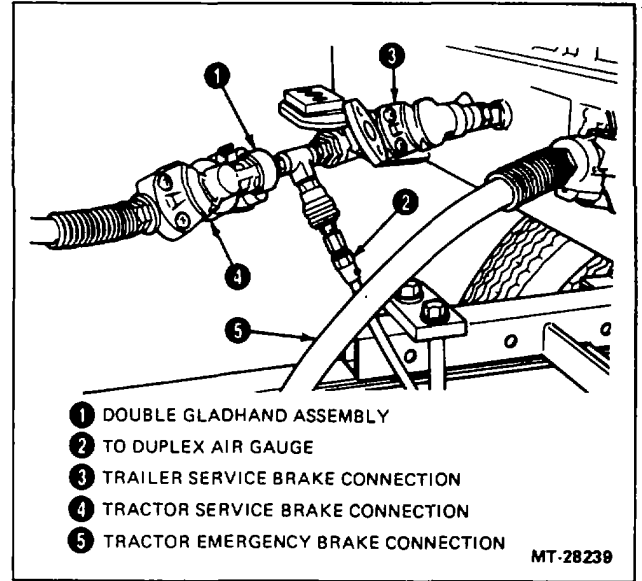

Figure 32—Double Gladhand Assembly Installation
- a. Install the double gladhand assembly in the tractor to trailer service line (Figure 32).